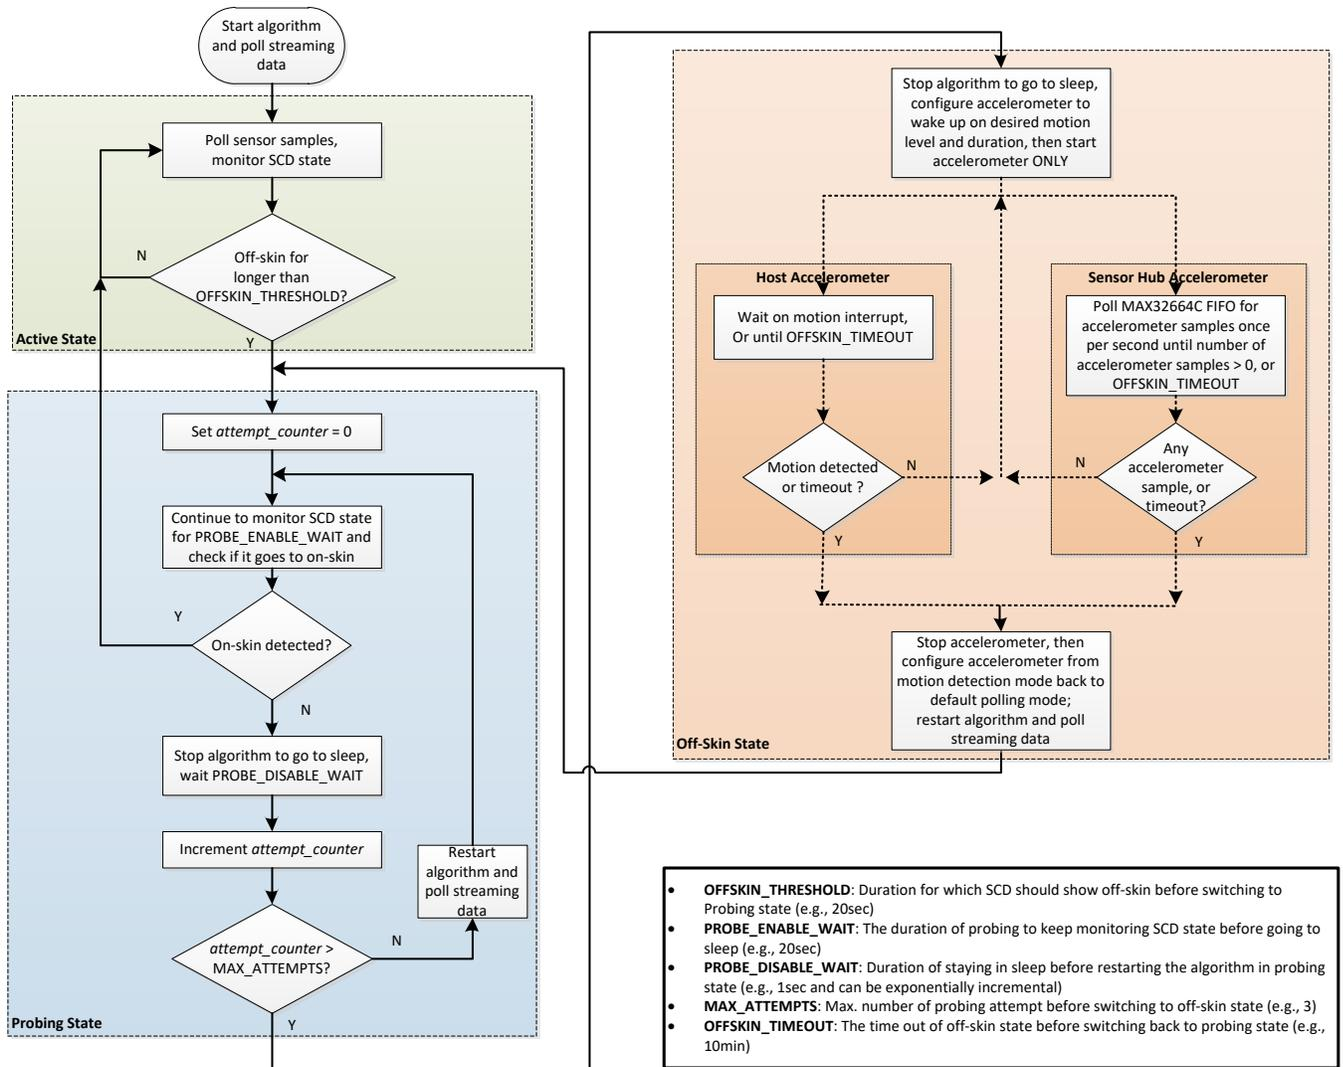

Figure 4. Example of an SCD-enabled, power-saving state machine.
In order to further reduce power consumption when the device is not placed on the skin, a motion-detection-enabled state machine can be implemented in the host. In this case, the MAX32664C stays in sleep mode until a motion event is reported by the accelerometer, or an I2C command is received from the host. **Figure 4** demonstrates an example of such a state machine.
- **Off-Skin State:** In Off-Skin state, the goal is to save more power by allowing the MAX32664C to stay in sleep mode, so long as there is no motion. Depending on the use of a host or sensor hub accelerometer (**section 1.3**), the host is required to configure the MAX32664C differently, as shown in **Figure 4**.